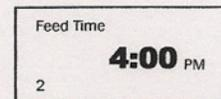

FIGURE 5
STEP 5: The display should now show FIGURE 4. Note the number 1 in the lower left side of the display. This is still concerning your number 1 feeding. Speed — refers to the speed of the motor. There are 3 possible speeds of the motor: 50%, 75%, and 100%. The 100% is used most often in the field and is therefore factory set to automatically show on the screen. If this speed is not desired simply use the up or down arrow buttons to set the speed you would like to use. With the standard factory installed spinplate, 100% speed will throw approximately 75 to 80 feet. The 75% setting will throw approximately 40 feet. The 50% setting will throw 10 to 15 feet. After the correct speed is displayed, press the SELECT/ENTER button one time. The display should now show FIGURE 5. [ON TIME makes many optional spinplates for different jobs, but the standard factory installed spinplate, which has 3 "ears", is a very effective plate. Teamed with the 3 motor speeds it is one of the best.]
STEP 6: At this point, your display should appear similar to FIGURE 5. The number 2 in the lower left hand bottom of the display indicates the second feed time. The 4:00pm is factory preset, and is another very common time to feed. If this is not the time you would like, press the up or down key to set the desired time for the second feeding. Once set press the SELECT/ENTER button one time.